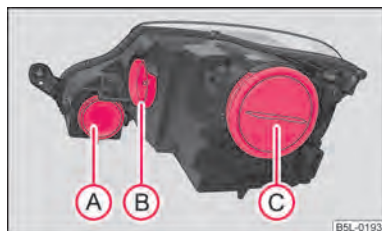

Fig. 181 Front headlight: Fitting position of the bulbs
Positions of the light bulbs in the front headlight ⇒ fig. 181.
- Remove the rubber protective cap ① ⇒ fig. 181.
- Remove the rubber protective cap (A) ⇒ fig. 181.
- Unplug plug (1).
- Take the faulty bulb out of the fixture (2) by pressing the light socket downwards and insert a new one.
- Take the faulty bulb out of the fixture (2) by turning in direction of arrow and insert a new one in the reverse procedure.